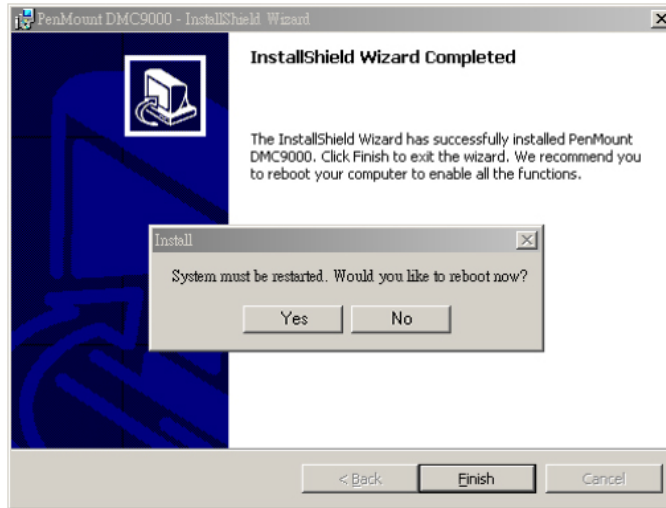

Figure C-6: Reboot the Computer
Step 8: The user is then prompted to select to restart the computer now or later (**Figure C-6**). For the settings to take effect, the computer must be restarted. Click **Yes** to restart the computer.